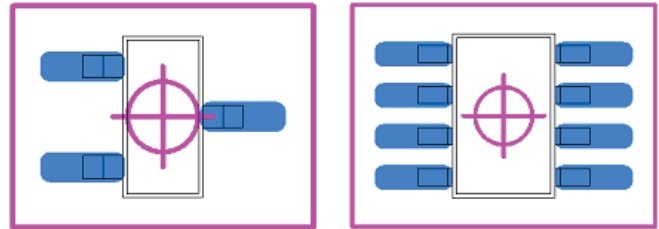

Figure 2: 0.5 mm pitch SOT23 3-pin and 8-pin examples
- 0.50 mm Pitch - See Figure 2